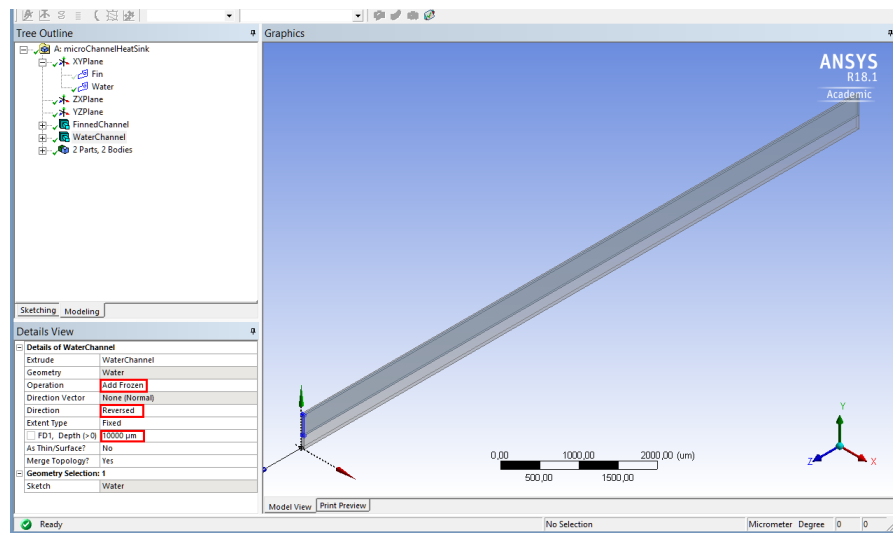

Figure 14: Extruded water channel.
- Extrude this sketch, as previously done for the fined channel, and rename it *WaterChannel*. Remember to select, also in this case, *Add Frozen* on the Details View, *Reversed* Direction of extrusion and again Depth of extrusion of 10000  $\mu\text{m}$ . The result is shown in fig 14.